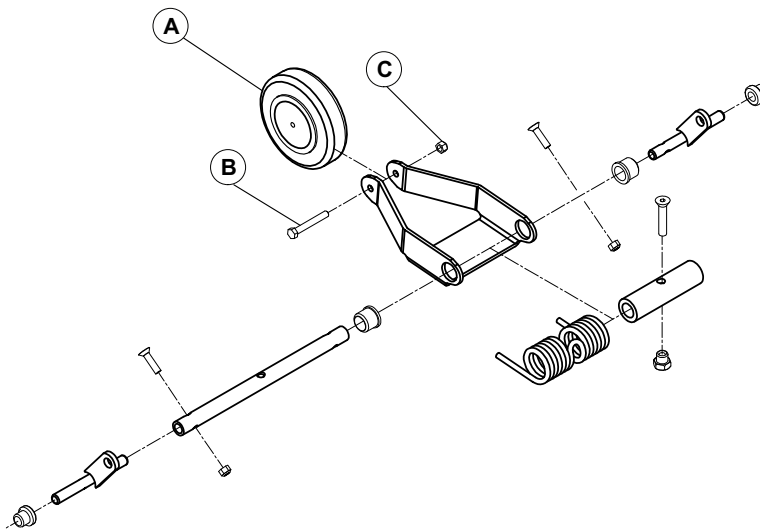

Figure 9 – Fifth wheel caster replacement
6. Using two 1/2" combination wrenches, remove the locknut (C) and bolt (B) that secure the caster (A) to the wheel arms (Figure 9). Discard the caster. Save the locknut and bolt.